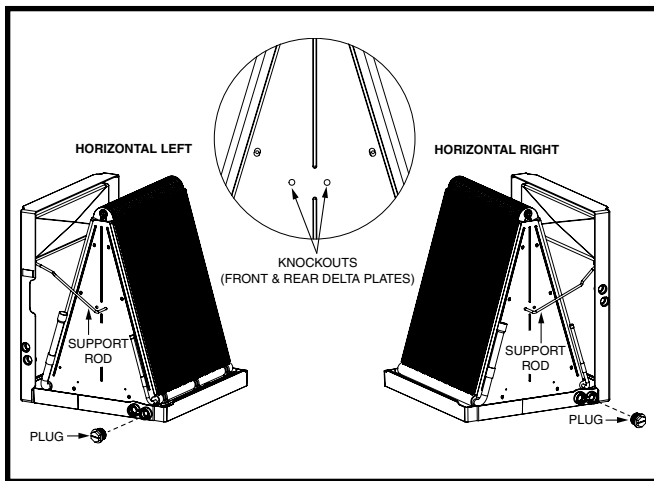

Figure 2. Drain Pan Installation
3. Remove the knockouts from the front and rear delta plates. See Figure 2.
6. Install the coil support rod by inserting the ends of the rod into the knocked out holes as shown in Figure 2. **NOTE:** The coil support rod (with the tabs on the end) goes in the holes that are in the front of the coil. Make sure the rod ends clear the copper parts of the coil when installed with the drain pan in step 7.
7. Attach the horizontal drain pan to the coil as shown in Figure 2.
8. Install the plastic plug into the open hole of the vertical drain pan to block bypass air flow. See Figure 2.